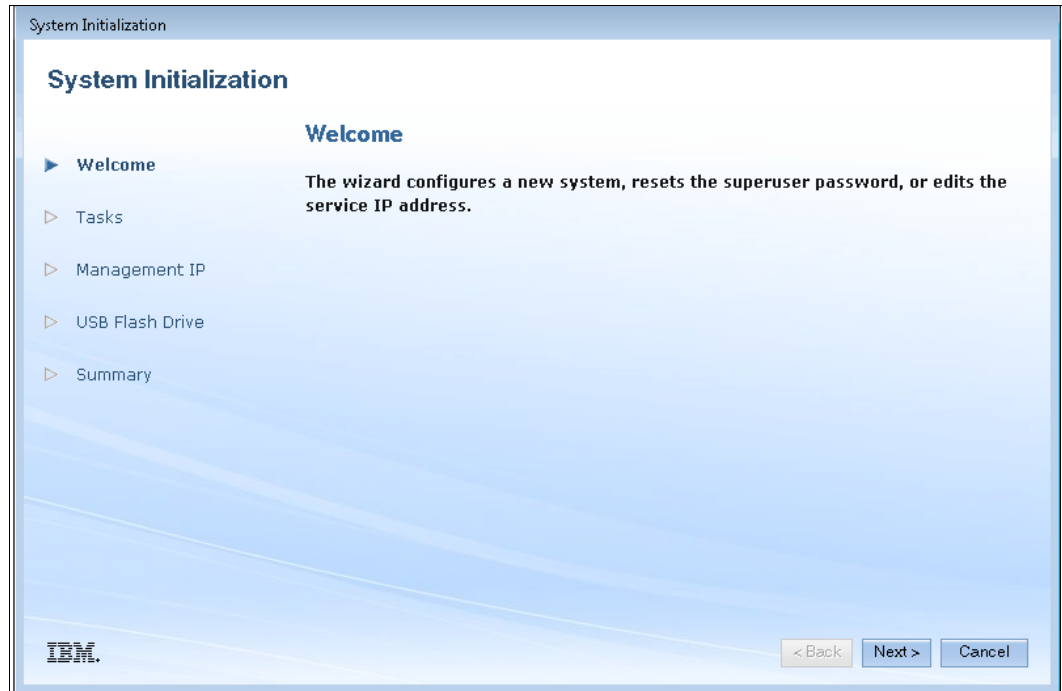

Figure 2-8 System Initialization: Welcome window
1. Plug the USB key into an Windows system and start the initialization tool. If the system is configured to autorun USB keys, the initialization tool starts automatically; otherwise, open My Computer and double-click the `InitTool.exe` file. The opening window of the tool is shown in Figure 2-8. After the tool is started, select **Next** and select **Create a system**, as shown in Figure 2-8.